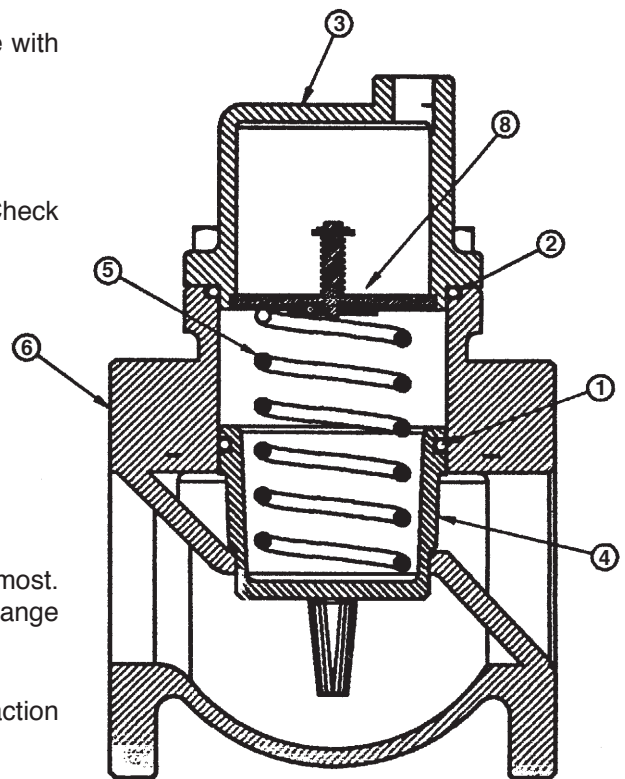
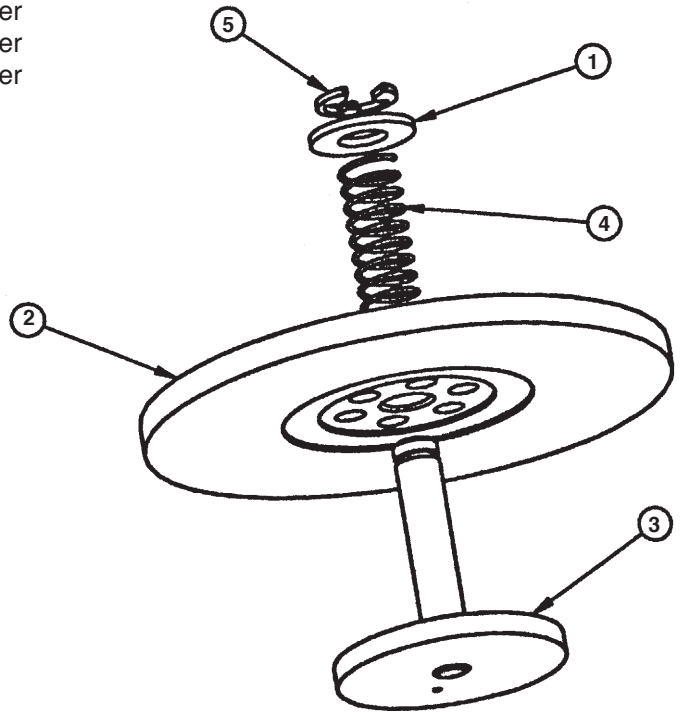

FIGURE 3
FIGURE 4
**Horizontal Installation (See Fig. 3)**
**Vertical Installation (See Fig. 3)**
Differential Air-Control Valve Systems manufactured after November 1997 have an easily removed check valve assembly (see Fig. 3, Item 8). The opening speed of the valve is controlled by the orifice in the disk assembly (See Fig. 4, Item 3). If the orifice is too large, the process fluid will flow too freely out of the piston area, causing the valve to open quickly. This results in more air flowing through the meter. If the orifice is too small, the process fluid cannot flow out of the piston area and the valve locks up. The standard 0.031" diameter orifice works well under most conditions. If using lube oils, or under extreme cold conditions, the orifice may be enlarged to increase the opening speed of the valve to prevent the valve from locking up and causing a no-flow condition. If it is necessary to enlarge the orifice, the following diameters are recommended:
### Adjusting the Orifice (See Figure 4)
To enlarge the orifice, remove the check valve assembly (See Fig. 3, Item 8). Disassemble the check valve assembly and remove the disk assembly (Item 3). Ream the hole to the desired size. Remove all burrs and reassemble. Run flow tests to verify the performance of the Differential Air-Control Valve. If the orifice has been enlarged too much, the hole may be soldered and re-drilled to the desired size.